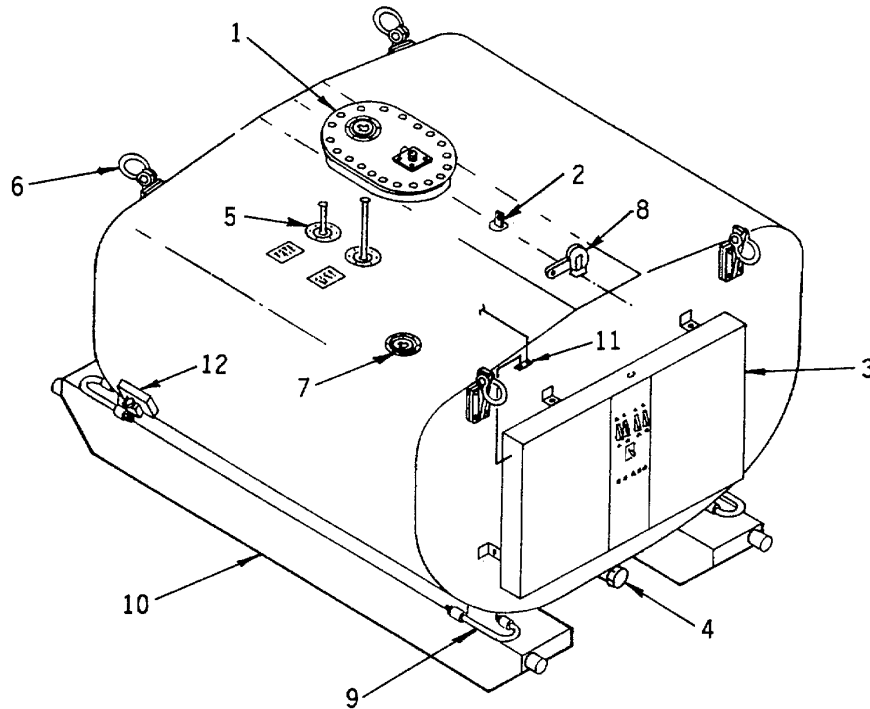
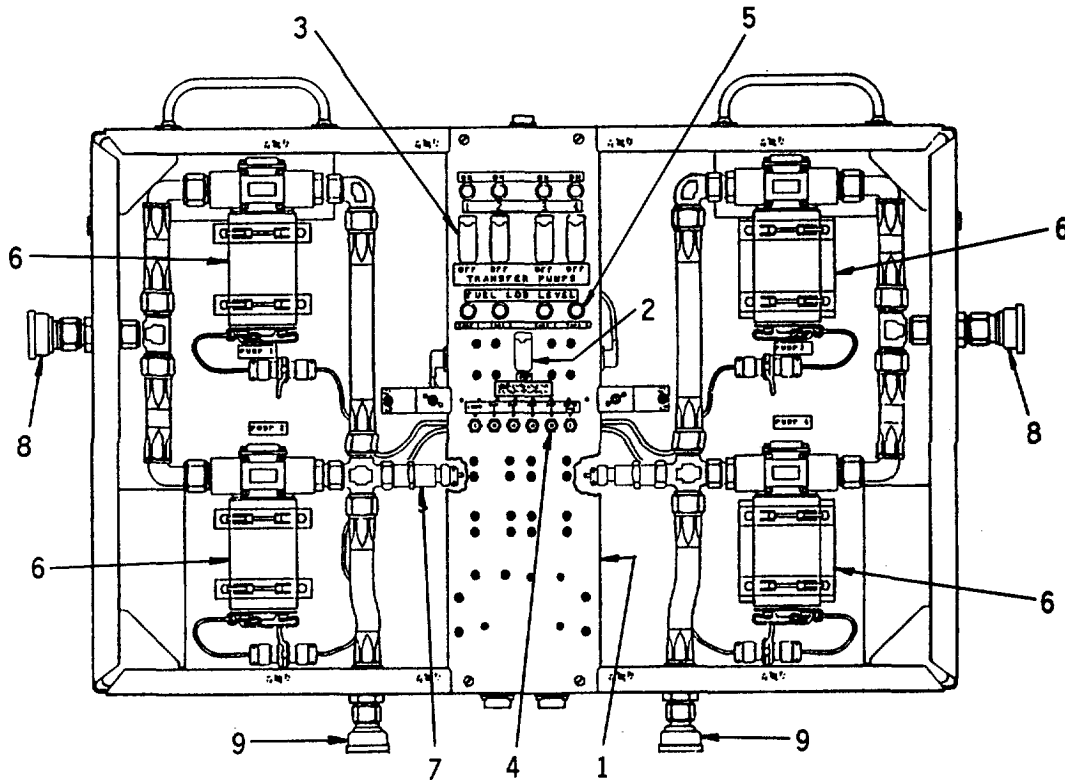

Figure 2-21. ERFS Controls and Indicators
Figure 2-22. FMCP Controls and Indicators
2-9. CONTROLS AND INDICATORS. The controls and indicators for the ERFS and FMCP are illustrated and described in Figure 2-21, Table 2-4, and Figure 2-22, Table 2-5. Figure index numbers key each control and indicator to the pertinent information in the tables.
c. Turn all pump switches (3) (four each) ON, Figures 2-22, 2-23, and 2-24.
d. Transfer fuel until low level warning lights (5) come on, Figure 2-22.
a. Turn all pump switches (3) (four each) OFF, Figure 2-22.
b. Close cam lever (8), Figure 2-21.